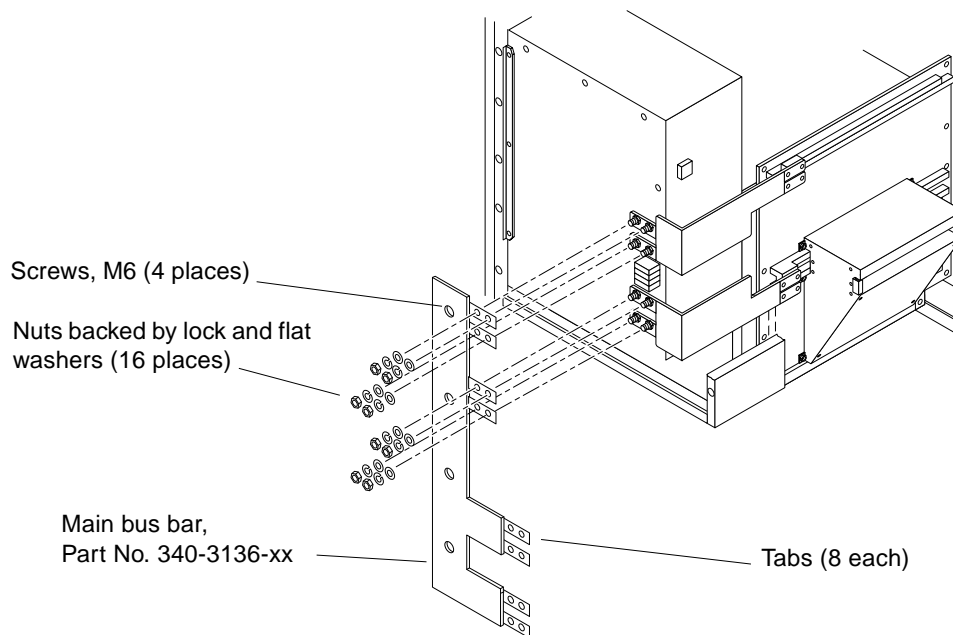

Figure 2-12 Installing the Main Bus Bar
1. Orient the bus bar as shown in Figure 2-12.
See Figure 2-12.
The screw Part No. is 240-2083-xx. See Figure 2-12.